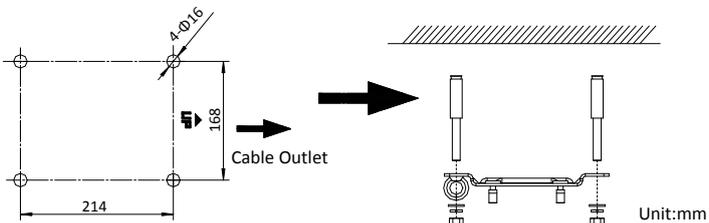

Figure 2-10 Install the Installation Plate
- Insert the flag washer and the spring washer. Then tighten the four screws to secure the installation plate as shown in Figure 2-10.